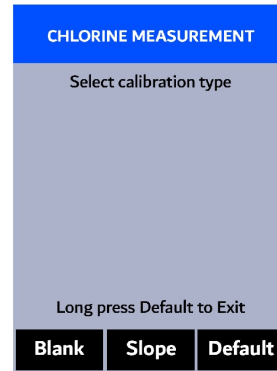
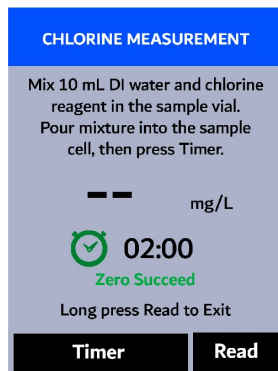

Figure 31.
Figure 32.
4. Press **OK** to launch the **CHLORINE CALIBRATION** screen (Figure 31).
6. Rinse the conductivity/chlorine sample cell three times with deionized (DI) water. Fill the sample cell with DI water.
7. Press **Zero** (**<** or **>**). The message "**Zero Succeed**" will appear on the bottom of the display (Figure 32).